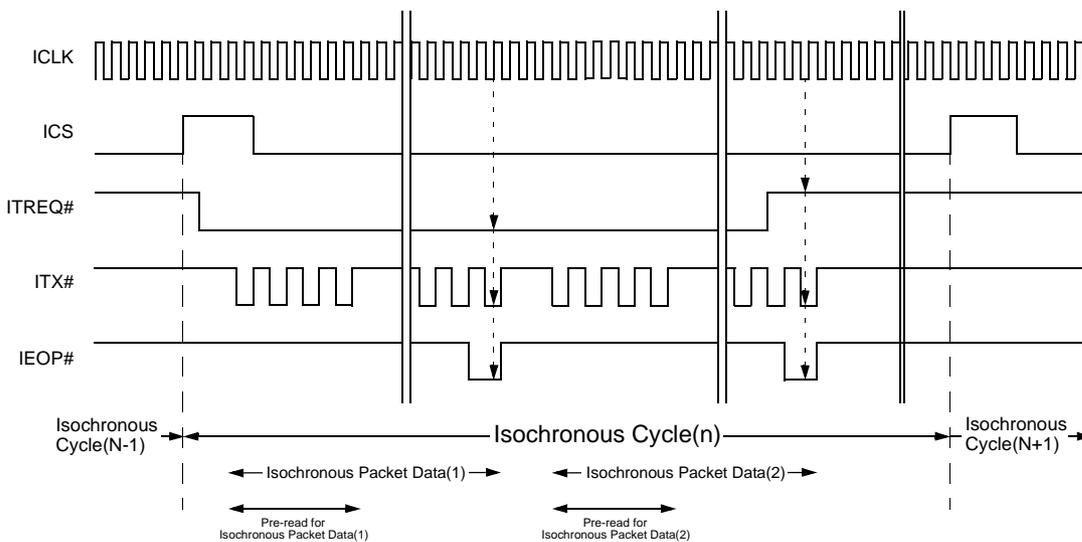

Figure 10-1-2 Multi-channel Isochronous Transmission Timing
Fig. 10-1-2 shows an example multi-channel (multiple packets) transmission using a certain isochronous cycle. As shown, ITREQ# is asserted in the enable period of the first (Isochronous Packet Data (1)) IEOP#, and the MD8415 identifies the presence of the next transmit packet according to this fact. When this has been identified, the MD8415 performs pre-read operation for the next packet data with the timing shown (period of pre-read for Isochronous Packet Data (2)). In the same manner as described in 10-1-2, a packet data request is successively forwarded to the external system at the time point when the arbitration is prevalent after pre-read operation. In the example of the figure, transmission of two packets is effected and then ITREQ# is negated with IEOP# of Isochronous Packet Data (2) to complete that cycle, because packet transmission is finished in the period of Isochronous Cycle (N).